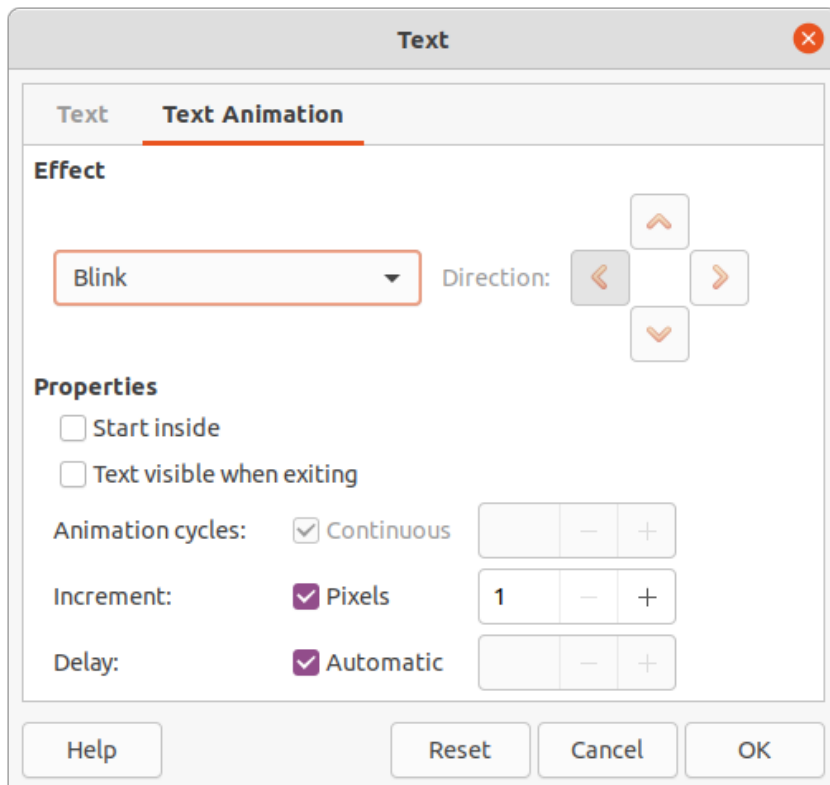

Figure 10: Text dialog - Text Animation page
- 4) If required, click on **Text Animation** to open the Text Animation page (Figure 10) and access options to animate the text. However, this is not recommended unless the drawing is going to be displayed as part of a presentation. See the *Impress Guide* for more information on text animation.